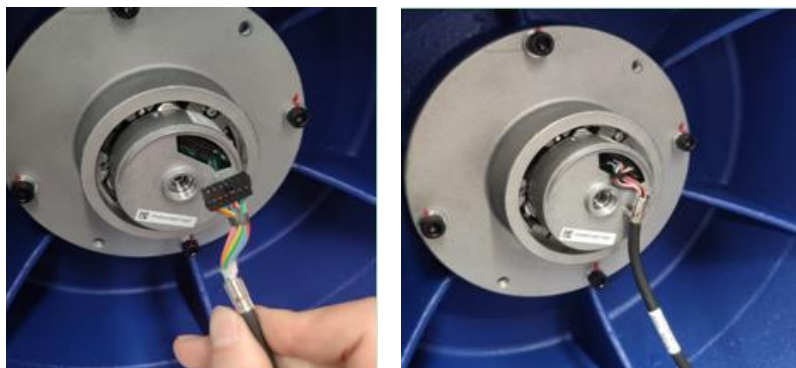

Figure 29
5. Install the encoder cable on the encoder. Take care to orient the plug and socket correctly. See Figure 29.